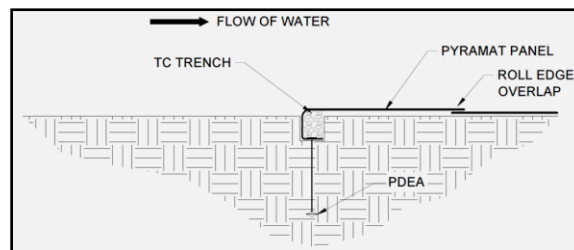

Figure 28: Terminal Channel (TC) Trench Complete
16. Backfill and compact the TC trench (Figure 28).
17. Fold the Pyramat panel over the top of the compacted TC trench ensuring a minimum 3 inch (75 mm) overlap and place each panel end into the respective COS trenches (Figure 28).